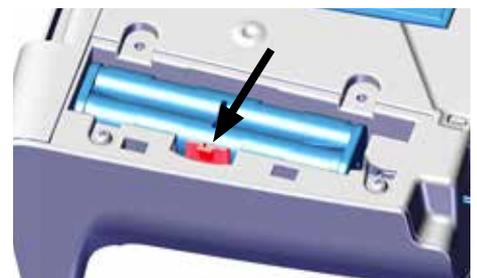

Fig. 2
- ⇒ Slide the holding clip (Fig. 2) to the side and remove the battery holder.